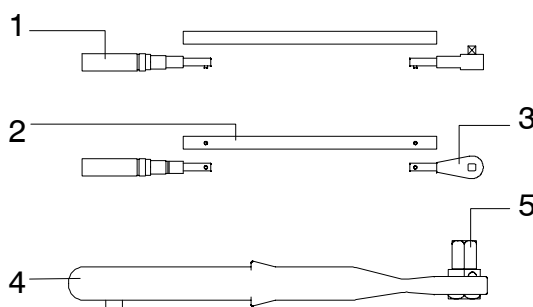

Fig. 2.4 – 10 Torque spanner
Torque spanner set 9612ZT230 consists of spanner (1), extension (2), ring spanner (4) and bit (5). The scale is calibrated for torque spanner with extension. For convenience, extension (2) may be used together with ratchet (3), see fig. 2.4 – 10 .